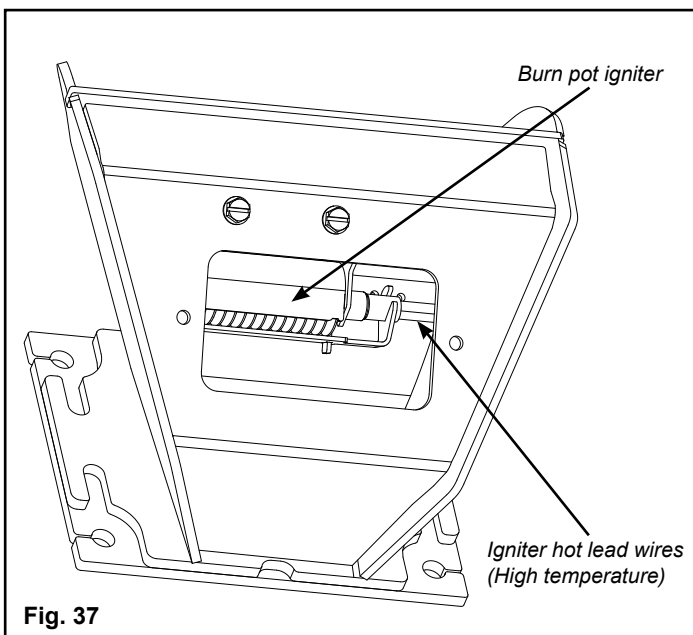

Fig. 37
3. Lift off the clean-out cover to open the bottom clean-out chamber. Fig. 37